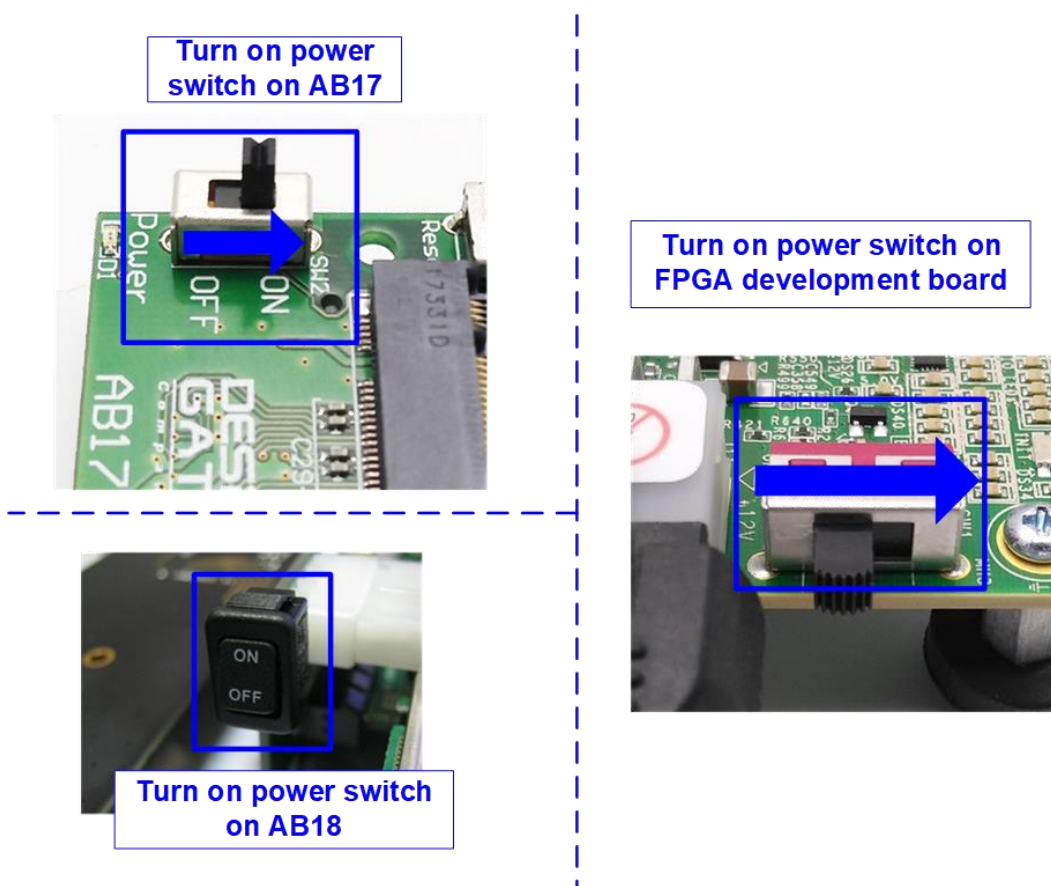

Figure 2-5 Turn on power
- 4) Turn on power switch of AB17/AB18, ATX power supply for AB18 (when using AB18), and FPGA development board as shown in Figure 2-5.